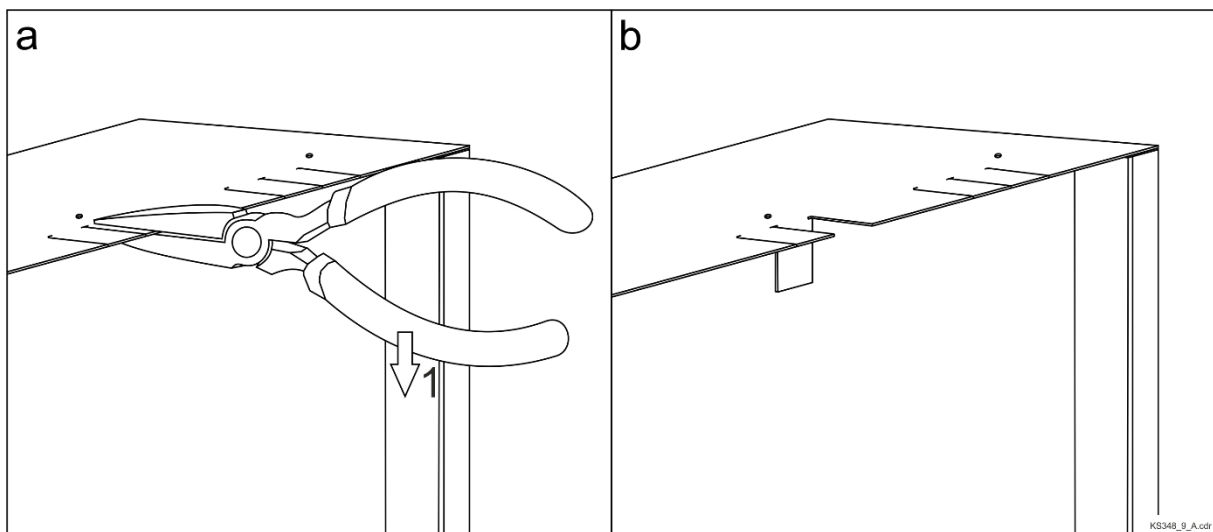

Fig. 4 Forming a cable entry hole in the bottom or top wall of the enclosure
9. To introduce cables into the enclosure from the upper or lower wall of the enclosure, form the cable holes as indicated in Fig. 4.